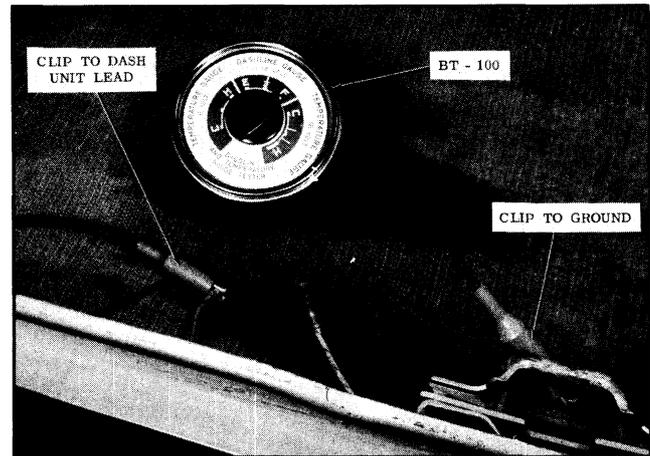

Fig. 13-52 Checking Fuel Gauge
1. Connect Tester BT-100 between gas tank unit wire and ground of car at bayonet terminal as shown in Fig. 13-52.